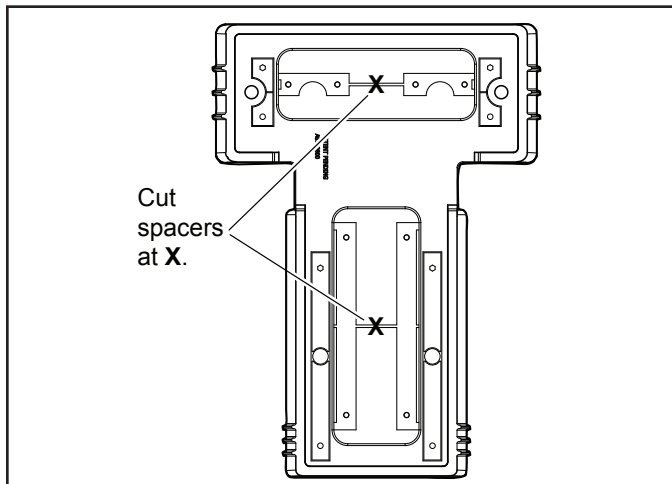
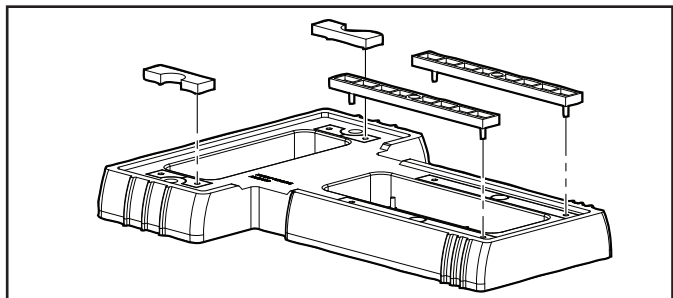

Figure 4. Cut Sets of Spacers Out of Base
Figure 5. Snap Spacers into Place
1. Using a hand cutter tool, cut the plastic bars connecting the top and bottom sets of spacers, as shown in Figure 4.
2. Push the two (2) top spacers and two (2) bottom spacers out of the base.
3. Align the pins in the four (4) spacers with the holes in the base and snap the spacers into place, as shown in Figure 5.